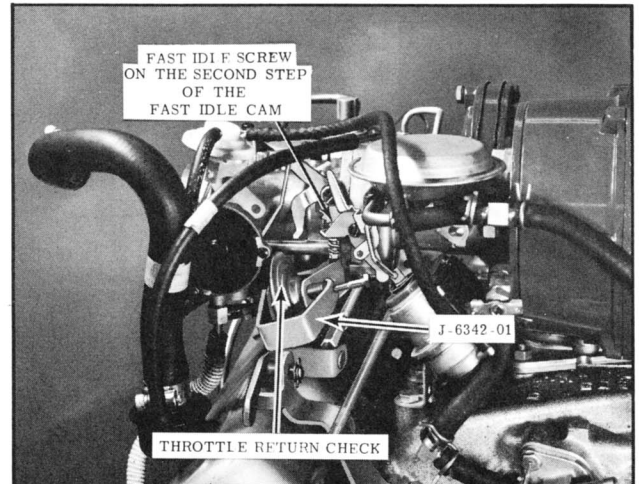

Fig. 8-125 Fast Idle Adjustment
13. Adjust the fast idle to 1500 RPM with the fast idle screw on the second step of the fast idle cam. (Fig. 8-125)